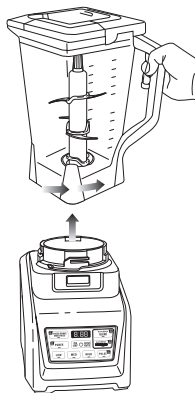

Fig. 9
- 14 Turn the pitcher counter clockwise to remove and then lift off the base. (Fig. 9)